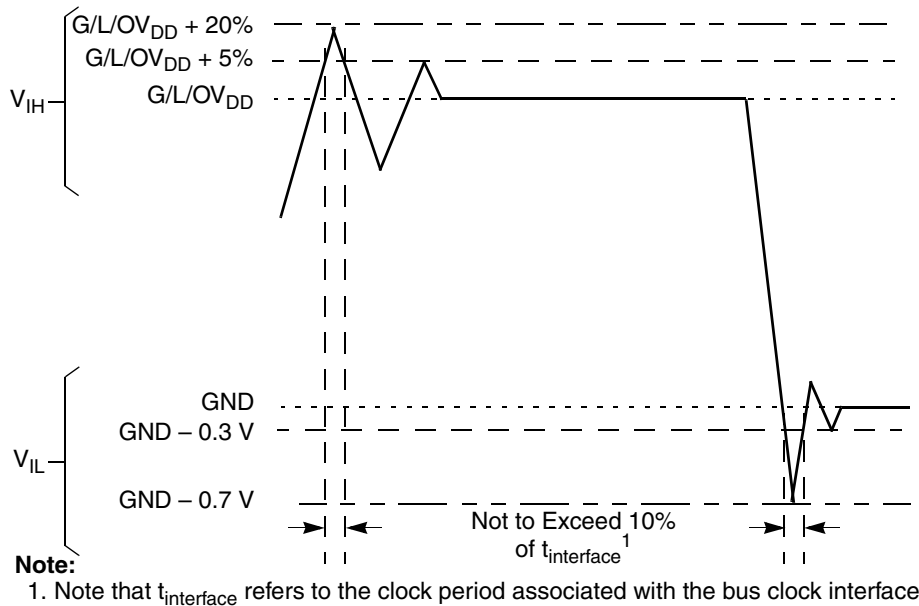

Figure 37. Overshoot/Undershoot Voltage for $GV_{DD}/OV_{DD}/LV_{DD}$
- (M,L,O)V_{IN} and MV_{REF} may overshoot/undershoot to a voltage and for a maximum duration as shown in Figure 37.
Figure 37 shows the overshoot and undershoot voltages at the interfaces of the MPC8343E.